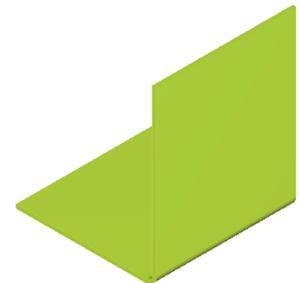

Fig. 28
Step 10. Turn on the shading, use **ALT-S**, **Fig. 28**.